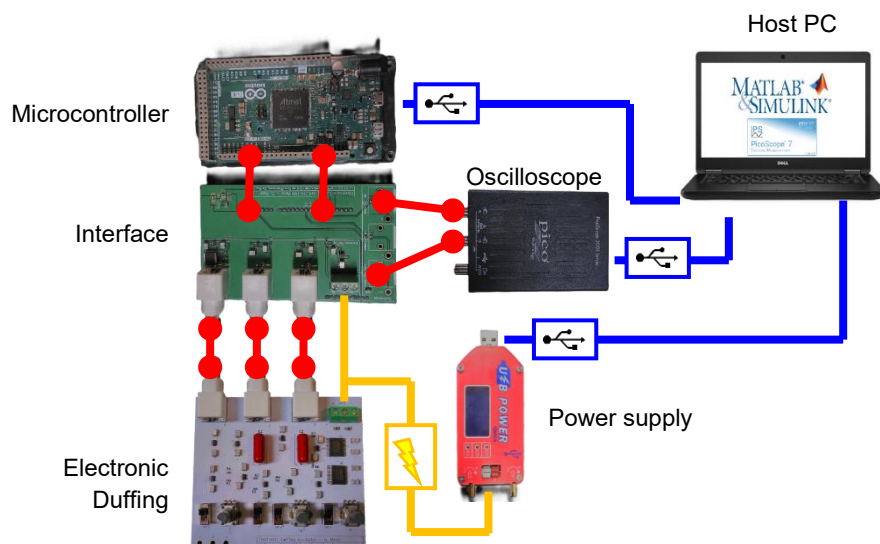

Figure 1 Experimental setup schematics.
The oscillator is controlled in real-time thanks to a microcontroller (Arduino Due). An interface circuit is used to match the voltage ranges between the two electronic circuits. They are powered with a USB power supply. The microcontroller is not suited to record the signals directly, which is why a digital oscilloscope (PicoScope 2204A) is used. A schematics of the setup is shown in **Figure 1**.
- 1) Check the connections depicted in **Figure 1** (USB connection between the oscilloscope/power supply and host computer, microcontroller and interface, BNC connection between the interface and electronic Duffing oscillator, probes between the interface and oscilloscope, and power supply to electronic Duffing oscillator and interface). Make sure that the power supply is not turned on yet (no LED should emit light).